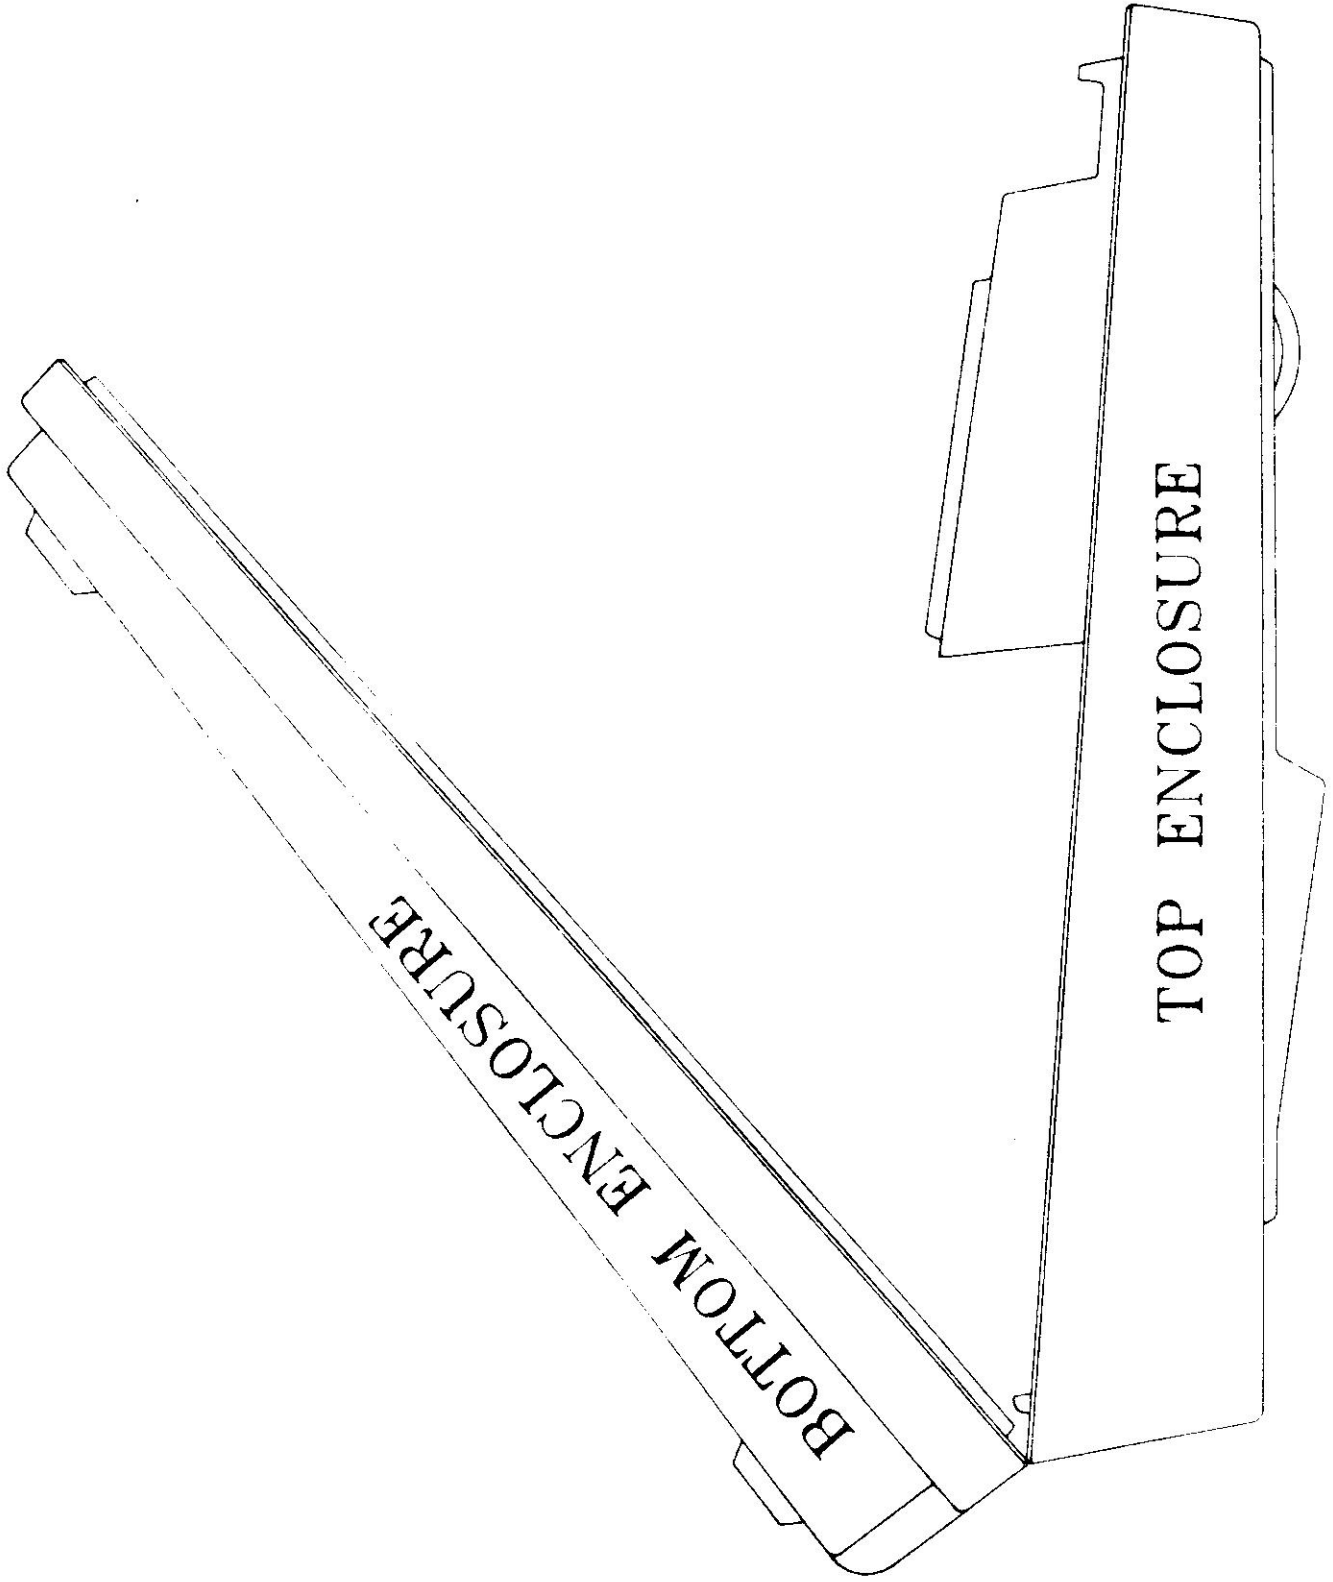

FIGURE 4
- 4 Lift the edge of the bottom enclosure that is closest to you. See Figure 1. If the fan kit has already been installed, be sure to disconnect the fan/hard disk drive power cable from the K2000's audio board before removing the bottom enclosure completely. See Figure 4. **Be sure that there are no cables connected between the bottom and top enclosures.** If there are any ribbon cables to be disconnected, make note of the orientation of the red border of the ribbon cable, so you can reconnect it properly. Set the bottom enclosure aside.
- 14 Lift the bottom enclosure, place its back edge (the edge with the Kurzweil logo) on the back edge of the top enclosure and hold the unit partially open as shown in Figure 4.